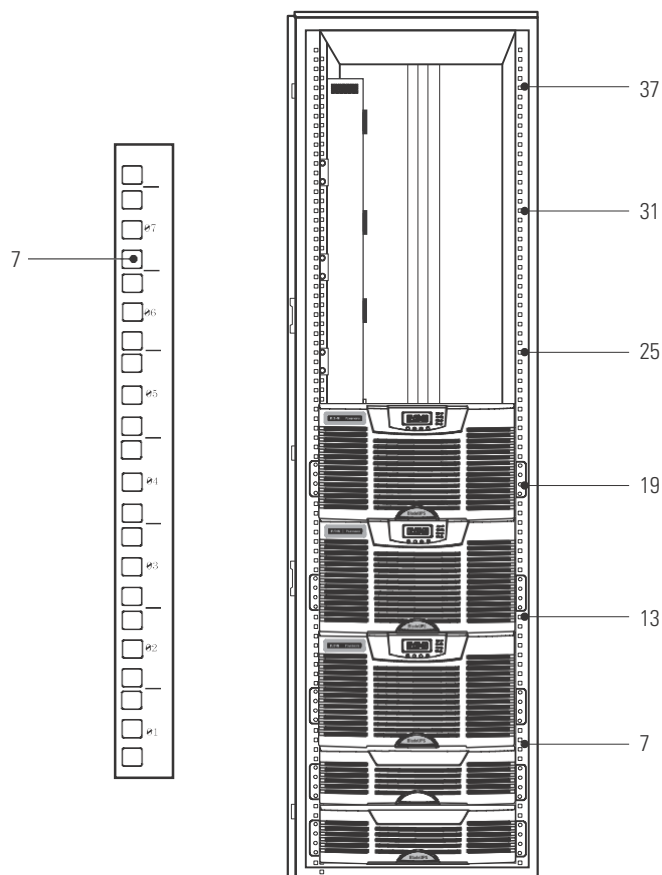

Figure 42. Recommended Rail Locations (Example Configuration)
7. Plan where each cabinet will be located in the rack and determine the “U” marks to use for mounting the rails. For example, for a rack containing six UPSs and a bottom wireway, plan to mount the bottom of the rails at the following marks (see Figure 42):
Recommended rail locations are for example only. Adjust the locations as needed for your system’s configuration. Allow for hole spacing and numbering (see Figure 42). For guidelines for configuring a parallel system with EBM’s, see page 3.